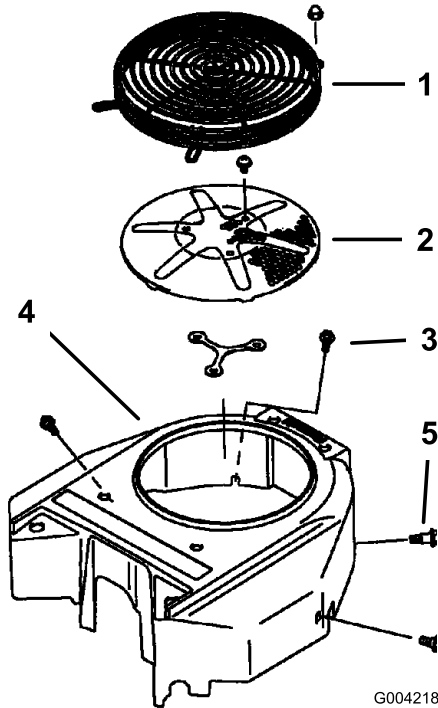

Figure 59
Before each use remove any build-up of grass, dirt or other debris from the engine screen. This will help insure adequate cooling and correct engine speed and will reduce the possibility of overheating and mechanical damage to the engine (Figure 59).
3. Remove the air intake screen, recoil starter and fan housing (Figure 59).
5. Install air intake screen, recoil starter and fan housing (Figure 59).